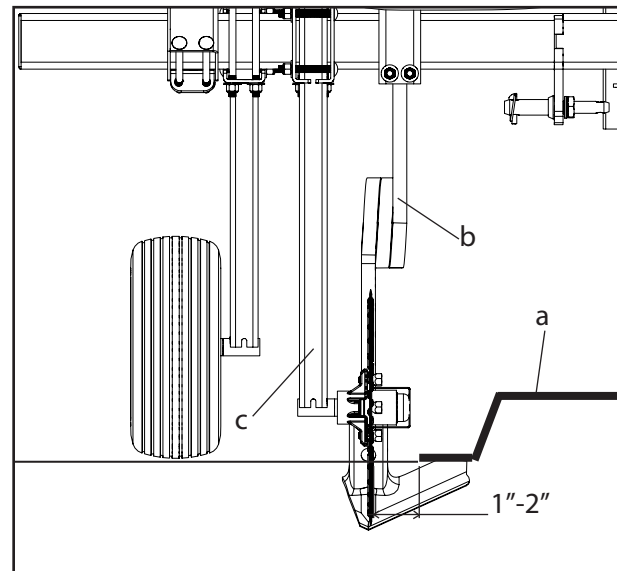

Figure 6: Settings the Width
- Adjust the shovel shanks so that the edge of the plastic (a) is 1"-2" from the inner side (b) of each shovel shank as shown (Figure 6).
- Position the side coulters (c), position them so that they are centered with the shovel shanks (b), as shown (Figure 6).
- Adjust the side coulters so that they run at approximately the same depth as the shovel on the shovel shank, and they are centered with the shovel shank as shown (Figure 6, Page 5).
- Adjust the side coulters so that they run at approximately the same depth as the shovel shank, and that they are centered with the shovel shank as shown (Figure 6, Page 5).